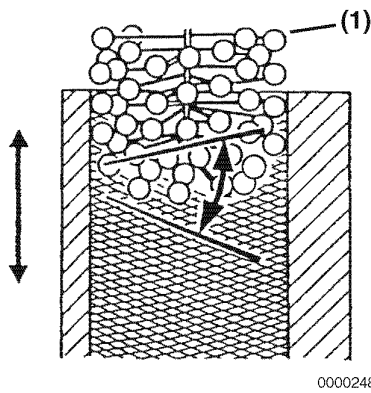
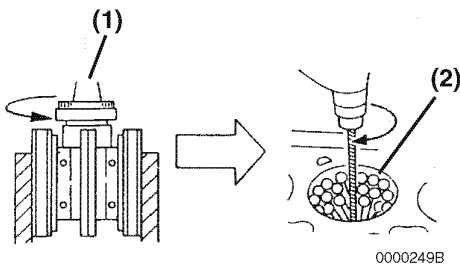

Figure 8-66
Figure 8-67
2. **Honing** - Minor cylinder imperfections may be corrected by using a rigid cylinder hone (**Figure 8-67, (1)**). Be sure not to exceed the maximum cylinder bore specification.
Deglazing - A used cylinder that did not require boring or honing, should always be deglazed with a ball hone (**Figure 8-66, (1)**) before installing new piston rings. This will properly prepare the cylinder surface to allow new piston rings to seat properly.
Note: When honing a cylinder, with either a ridged hone or a ball hone (**Figure 8-67, (1)**), move the rotating hone up and down in the cylinder bore to accomplish a 30° to 40° crosshatch pattern (**Figure 8-66**). This will provide the ideal surface for the proper seating of new piston rings.
- Use a 300-grit hone at 300 - 1200 rpm (Figure 8-67).